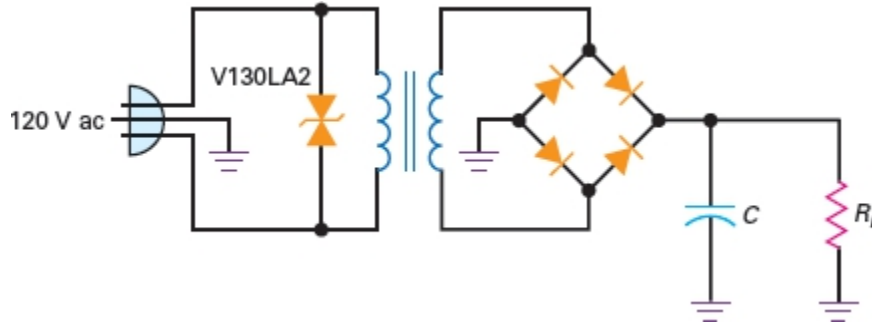

Figure-22 Varistor protects primary from ac line transients
- For instance, a V130LA2 is a Varistor with a breakdown voltage of 184 V (equivalent to 130 V rms) and a peak current rating of 400 A. Connect one of these across the primary winding as shown in Figure-22, and you don't have to worry about spikes. The Varistor will clip all spikes at the 184-V level and protect your power supply.